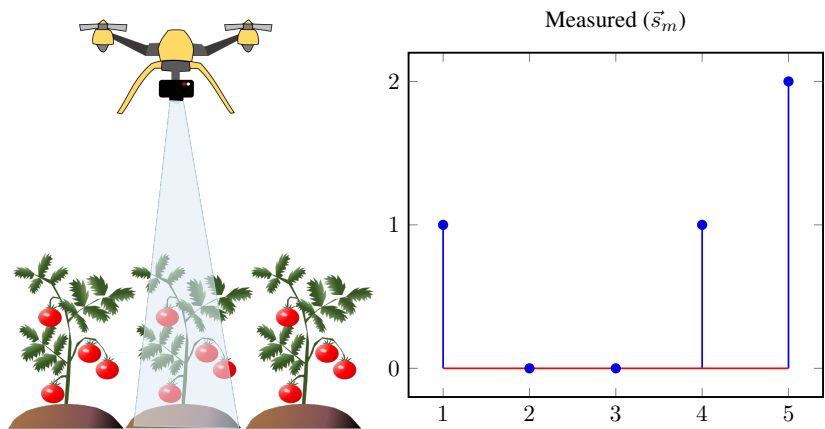

Figure 9: Spectral signature for the measurement, \vec{s}_m .
- (a) Using your spectral sensor, you measure the following spectral signature for one of your tomato plants as shown in Figure 9. This measurement has some noise in it.